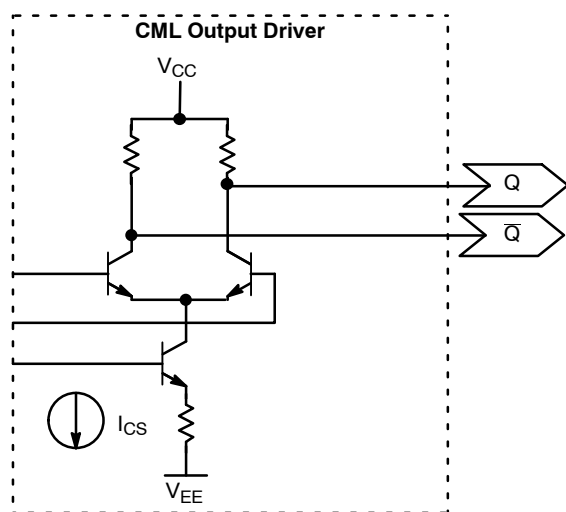
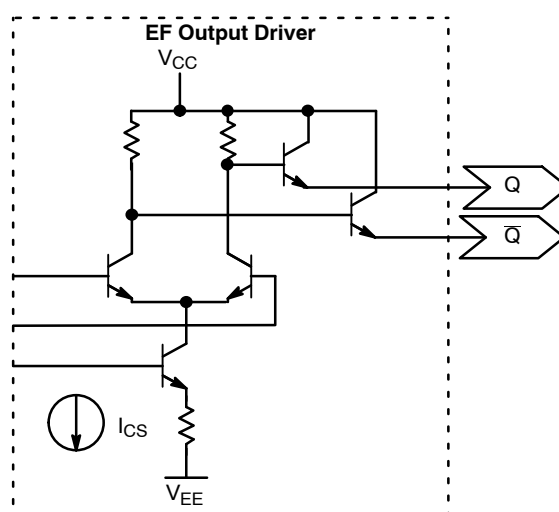

Figure 1. ECL with CML, Current Mode Logic Output Structures
Figure 2. ECL with Emitter Follower Output, Output Structures
This document will discuss general termination and interface interconnection of On Semiconductor ECL devices with Current Mode Logic (CML) OUTPUT Structures. ECL has a long history of using a coupled emitter differential pair output structure with an Emitter Follower (EF) as shown in Figure 2. This classic EF output displays about $6\ \Omega - 8\ \Omega$ internal impedance in both LOW and HIGH output states. A constant internal current, I_{CS} , is steered through one side or the other by the two switching transistors. Now, some devices are available using CML outputs structures with internal impedance of $50\ \Omega$ as shown in Figures 1. On Semiconductor ECL CML devices offer back source termination to $50\ \Omega$ impedance and a potential reduction in external components.